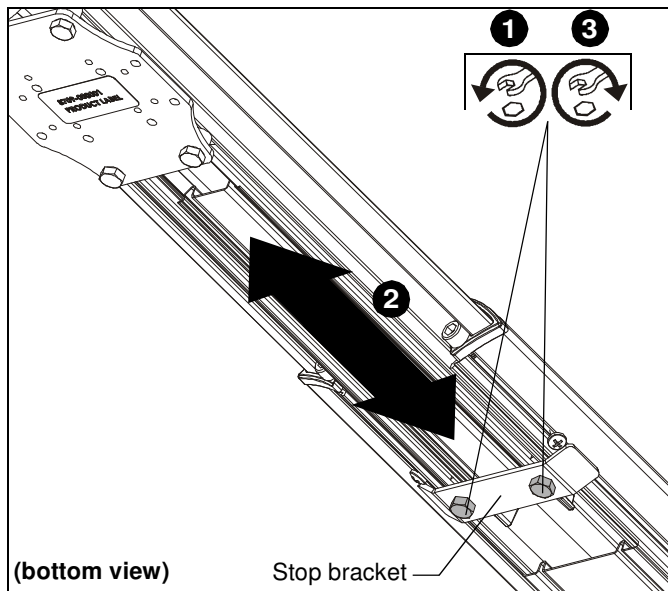

Figure 25
- Loosen two bolts holding stop bracket in place on underside of short throw projector mount. (See Figure 25)
- Adjust mount to desired extension length. (See Figure 25)
- Tighten two bolts holding stop bracket to secure mount in desired position. (See Figure 25)